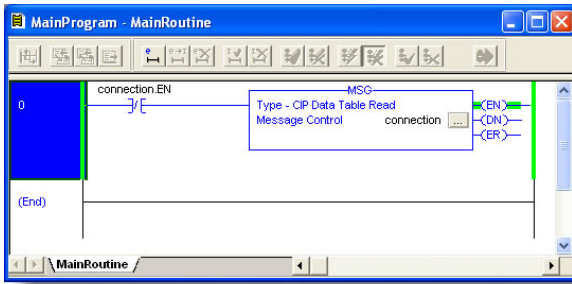

Figure 110: Complete Program
6) The program is now complete. Refer to Figure 110.